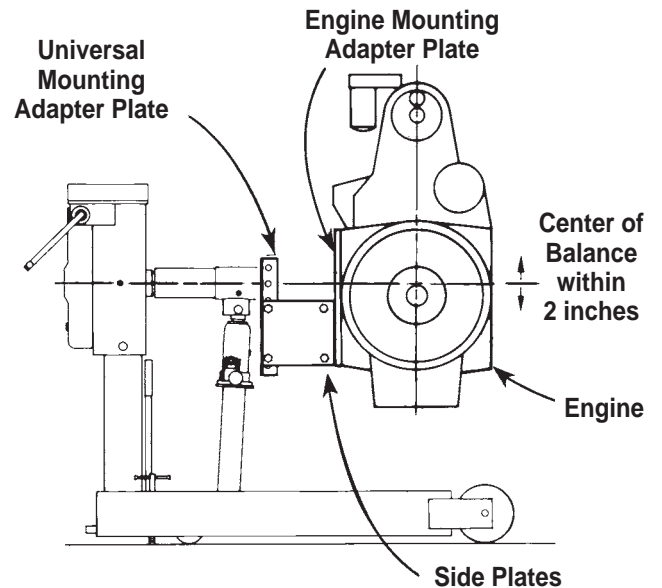

Figure 1
2. Find the engine's center of balance (or greatest concentration of weight). *Note: This is usually about two inches above the center of the crankshaft.* See Figure 1.